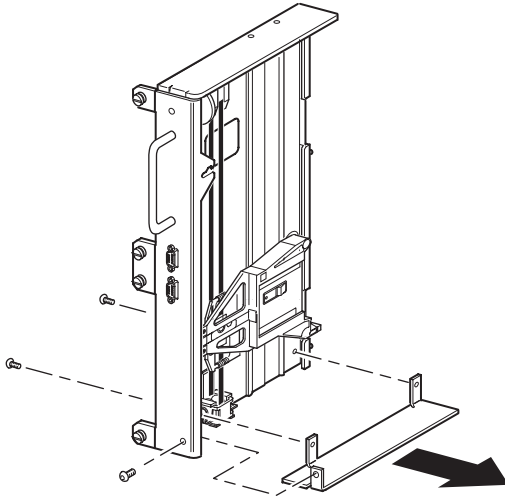

Figure 13 Removing the bottom plate from the PTM base unit
1. Remove the bottom plate from the PTM base unit (see Figure 13).